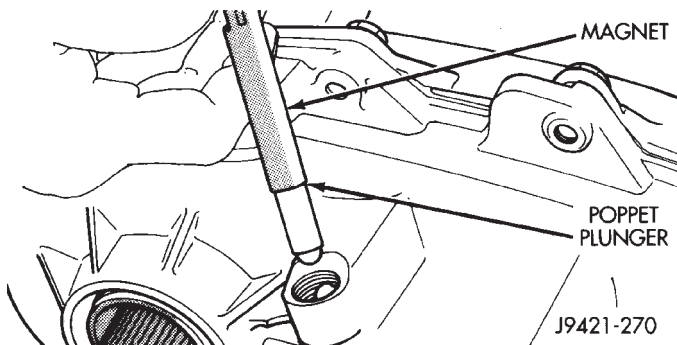

Fig. 24 Poppet Plunger Removal
(4) Remove poppet plunger with magnet (Fig. 24).